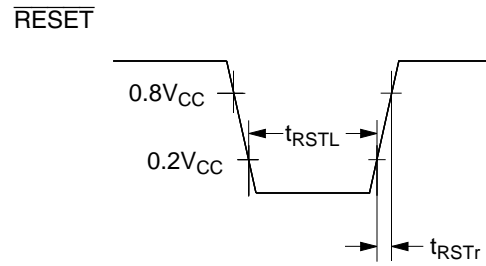

Figure 86 \overline{RESET} Timing
5. Refer to figure 86.
- Refer to figure 86.